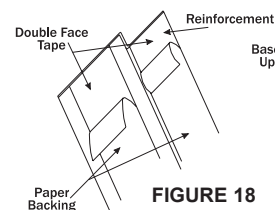
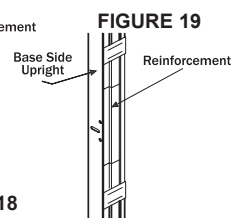

FIGURE 18
FIGURE 19
2. Expose double face tape by removing paper backing on two strips of tape (Fig. 18) and press into position to secure the sleeve to the frame (Fig. 19).